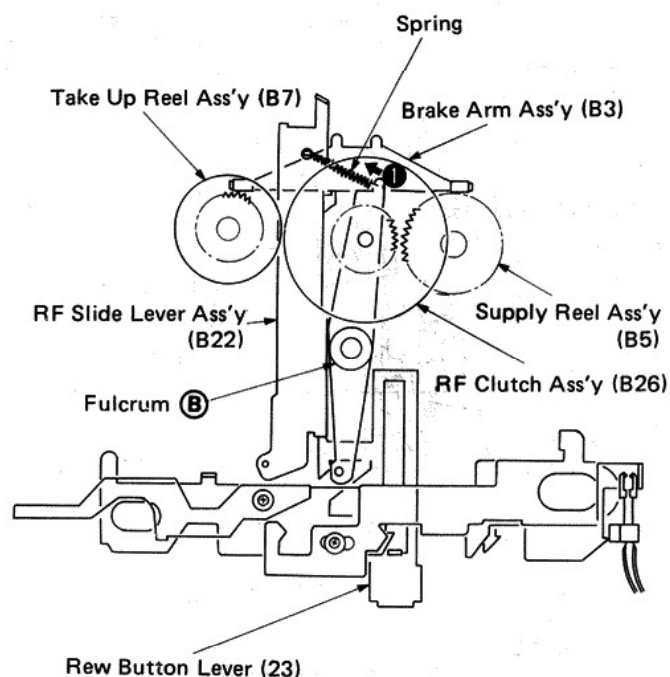

Fig. 22
- 1 Fig. 22 shows the conditions of the REW-related mechanism in the STOP mode.
- 2 The RF clutch assembly (B26) is pulled by the spring in direction ① based on the fulcrum ②.
- 3 On the other hand the brake arm assembly (B3) also keeps contact with the take-up reel assembly (B7) and the supply reel assembly (B5), and is in the braked condition. (Fig. 22)